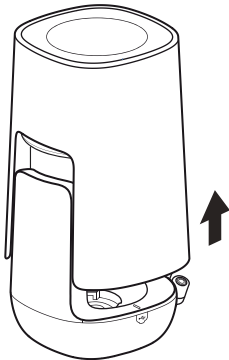

Figure 3.31 – Removing Shroud
2. Remove shroud by lifting shroud straight up and away from the filter base (see Figure 3.31).